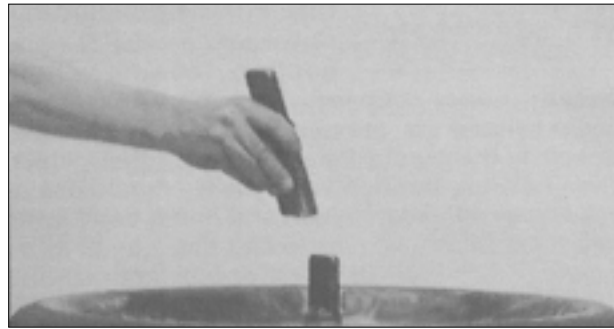

Figure 19- Optional Short Center Post Extension
3. For mounting and demounting tires on wheels from 10" to 14" wide, use the optional short center post extension (part #8108311). Slip the extension over the center post key (figure 19).